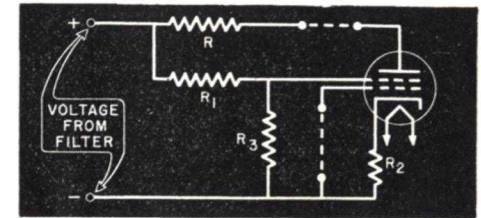

FIG. 23. A typical bleeder circuit.
the operating voltages of the others. ► Fig. 23 shows a typical bleeder voltage divider. Screen grid voltage reduction is produced by R_1 , which carries both the bleeder current drawn by R_2 and the screen grid current of the tube. The bleeder serves to stabilize or hold steady the screen grid voltage. Should the bleeder open, however, only the screen grid current would flow through R_1 , so its voltage drop would be less and more
4. What type of current exists at the output of the rectifier tube: (1) a.c.; (2) pure d.c. or (3) pulsating d.c.?
9. Suppose the bleeder resistor opens in the circuit shown in Fig. 23. Would you expect the screen grid voltage to: (a) increase; (b) decrease, or (c) remain the same?
10. Would you expect to find: (1) a choke input; or (2) a condenser input filter used with a mercury vapor rectifier tube?